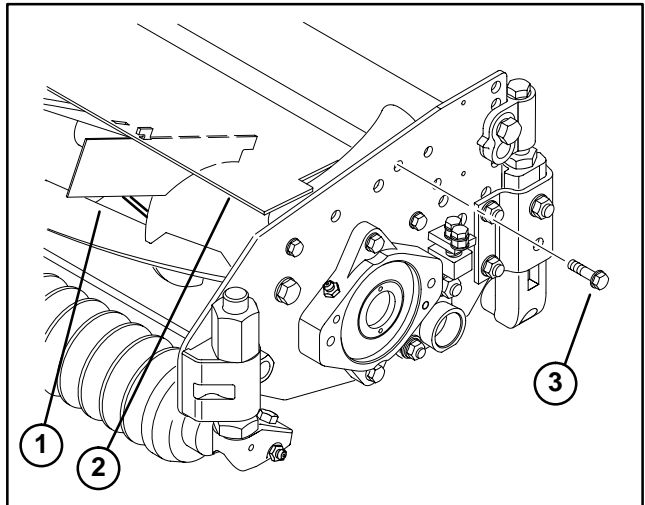

Figure 17
3. To change grass shield angle, loosen flange head capscrew (Fig. 17) securing shield to left side plate, move shield to desired angle and tighten screw.